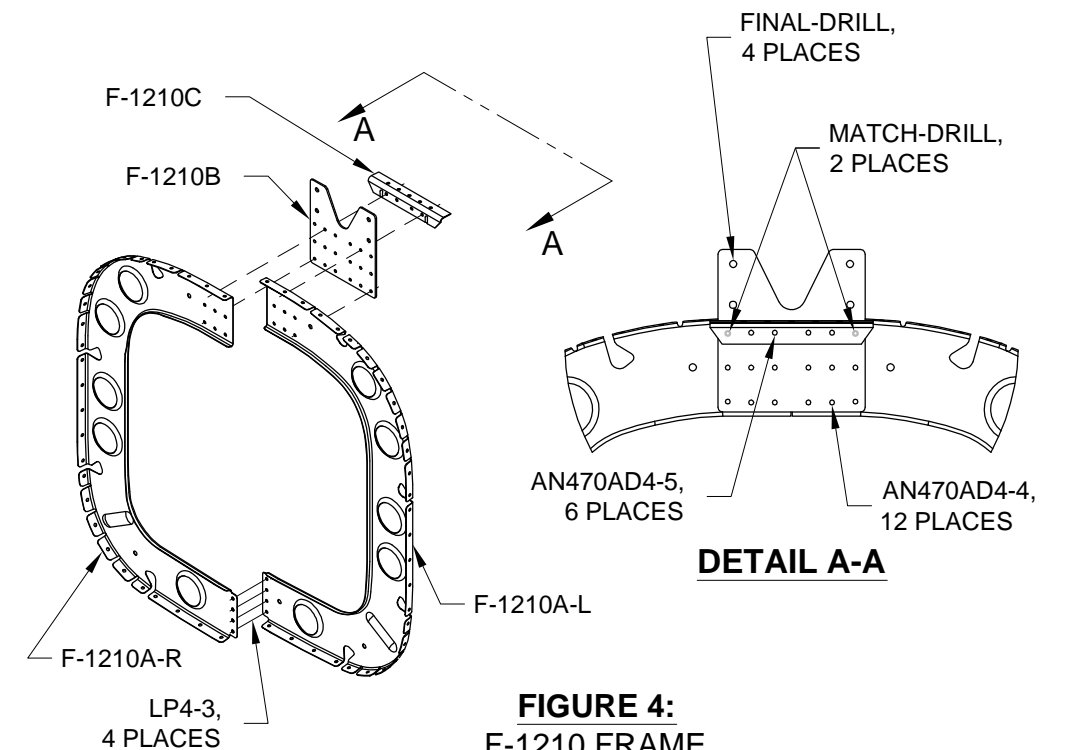

FIGURE 4:
Step 7: Cleco the F-1210B Plate, and F-1210C Angle to the F-1210A-L & -R Fuselage Frames, as shown in Figure 4.
Step 8: Match-Drill #30 the two holes from the F-1210A-L & -R Fuselage Frames into the F-1210C Angle as called out in Figure 4. Disassemble and deburr.
Step 9: Final-Drill #12 the F-1210B Plate at the holes called out in Figure 4.
Step 10: Rivet the F-1210A-L to the F-1210A-R Fuselage Frame, the F-1210B Plate, and the F-1210C Angle together using rivets called out in Figure 4.